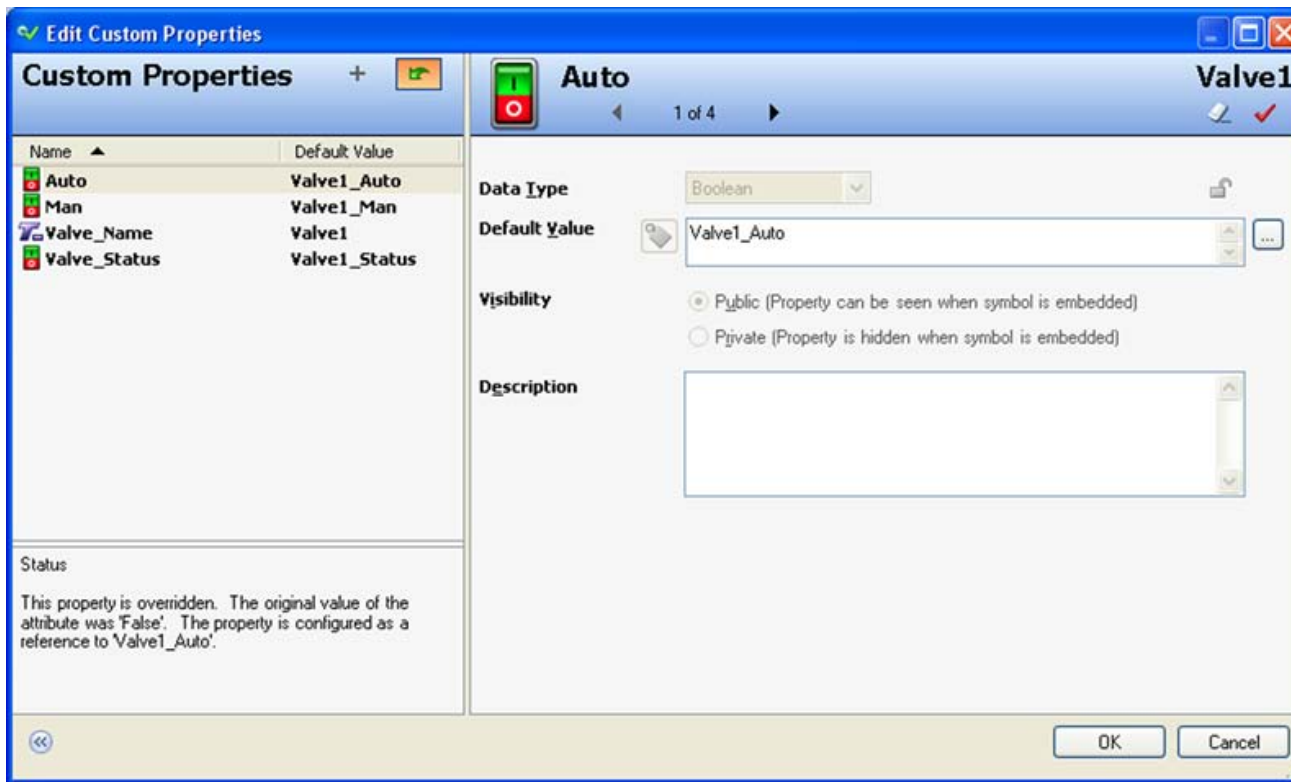

FIGURE 18: INTOUCH TAGS IN EACH SYMBOL
4. Assign the InTouch tags created above to each Valve symbol (Figure 18 below).